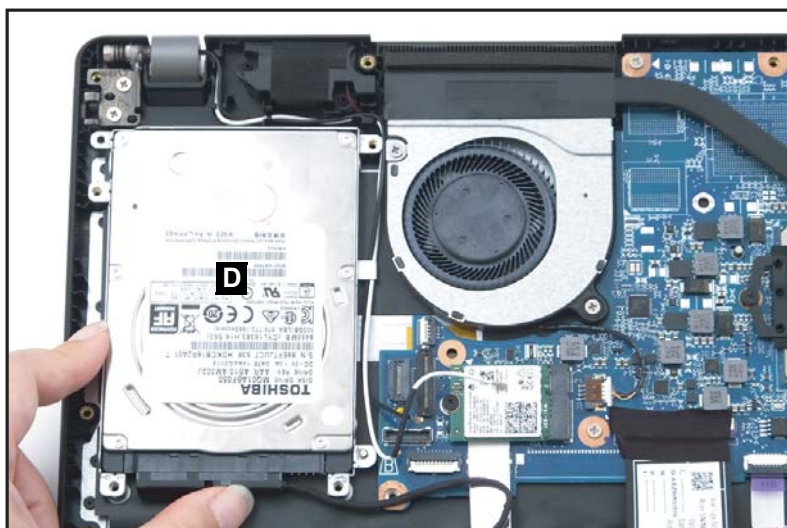

Figure 1-22. HDD Module Removal
4. Remove the HDD module assembly (D) from its compartment (Figure 1-22).